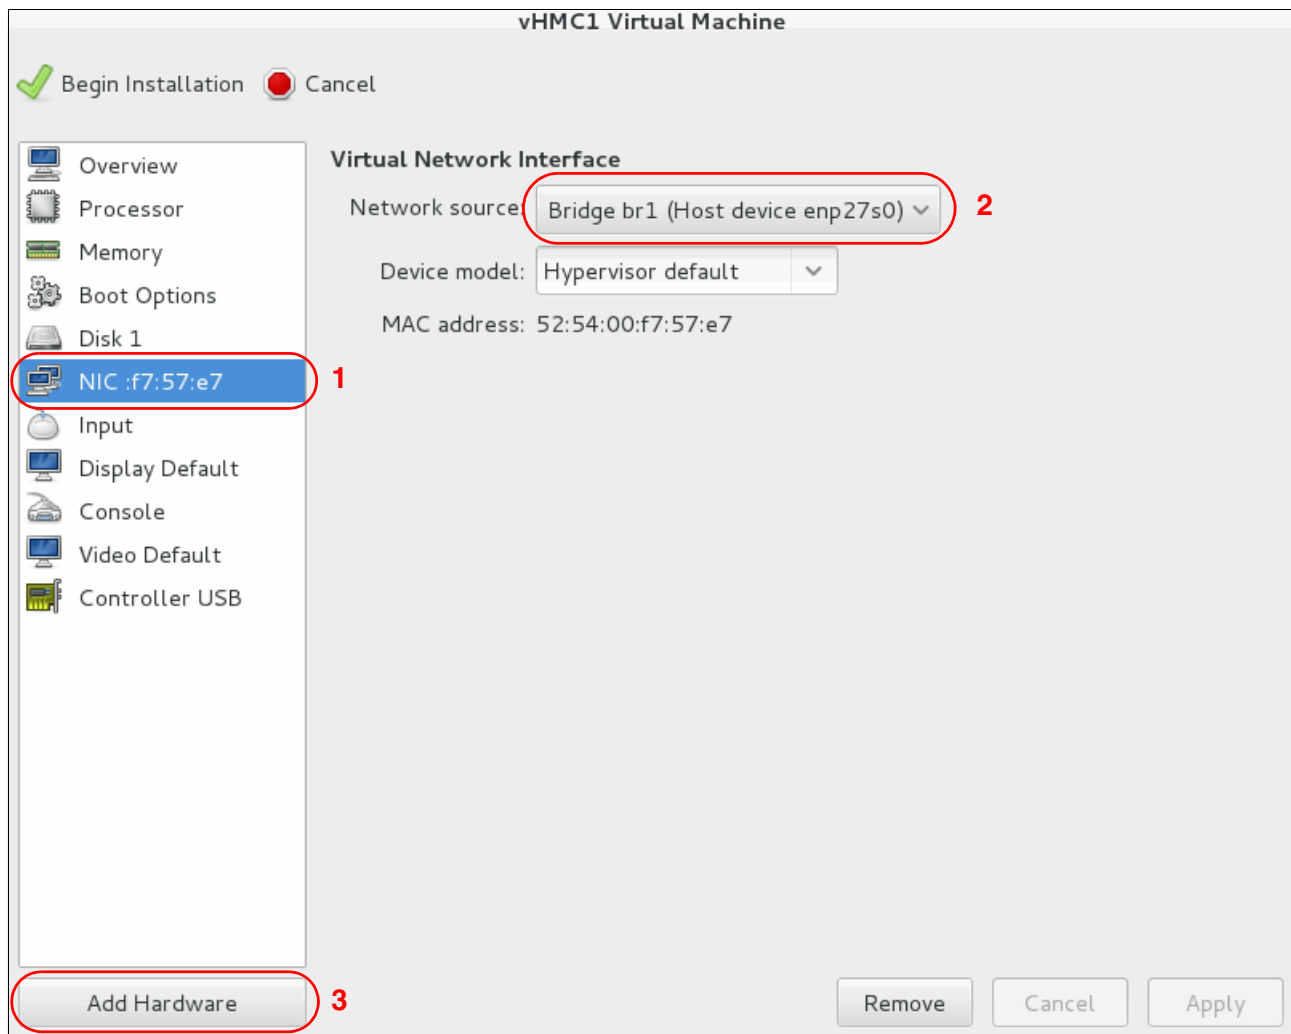

Figure 3-28 Check first NIC to be on bridge br1
8. In the VM customization panel (Figure 3-28), select the NIC in the left pane, and be sure it is assigned to the service processor network bridge (br1). Click **Add Hardware** to set up a second NIC.